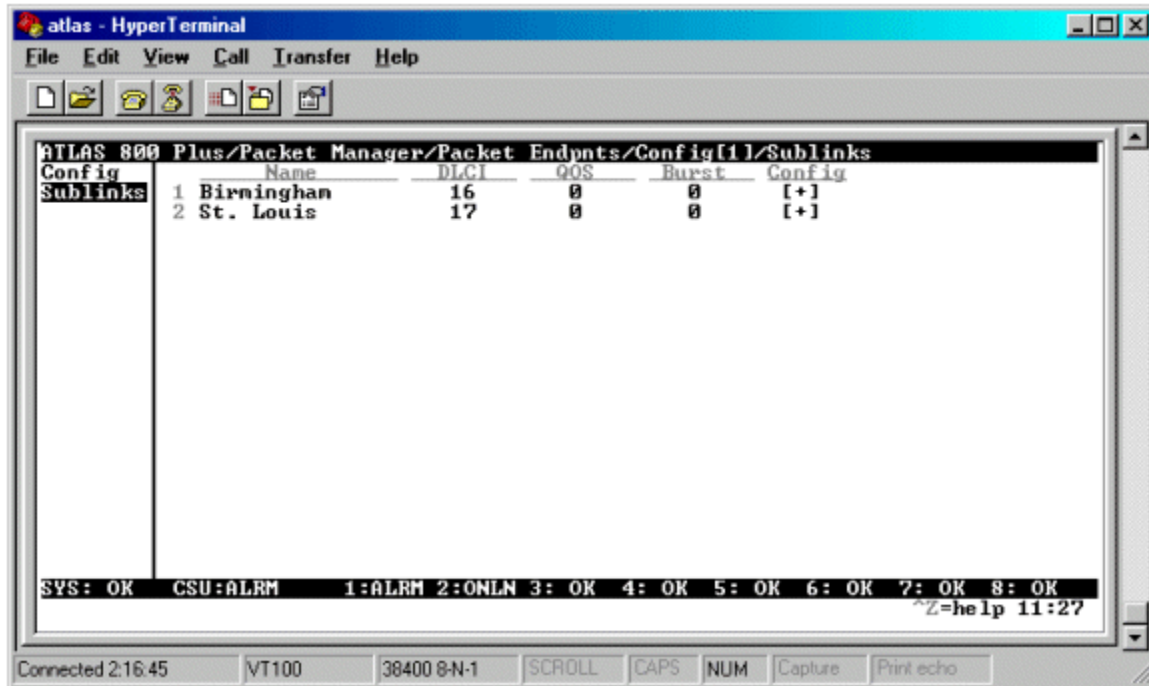

Figure 6
4. Configure the Permanent Virtual Circuits (PVCs) under **Sublinks** for each of these endpoints. Start with the T1 packet endpoint by pressing **ENTER** on the **Sublinks** option for that endpoint. Name the PVC and ENTER the locally significant DLCI for each as shown in Figure 6. In this example, the PVCs are named for the remote site location that the PVC is mapped to on the far end of the frame relay network. Press **ENTER** on the Config option of the **Sublinks** menu. By default, the **Primary | Backup Selection** should be **Primary**.